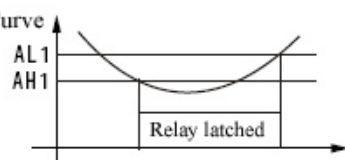

Fig 2 Lower limited
3. Set AH1<AL1(AH2<AL2), when AH1  $\geq$  measured value, the relay will latch; when measured value  $\geq$  AH1, the relay unlatched. This is for the "lower limited" configuration. See Fig 2